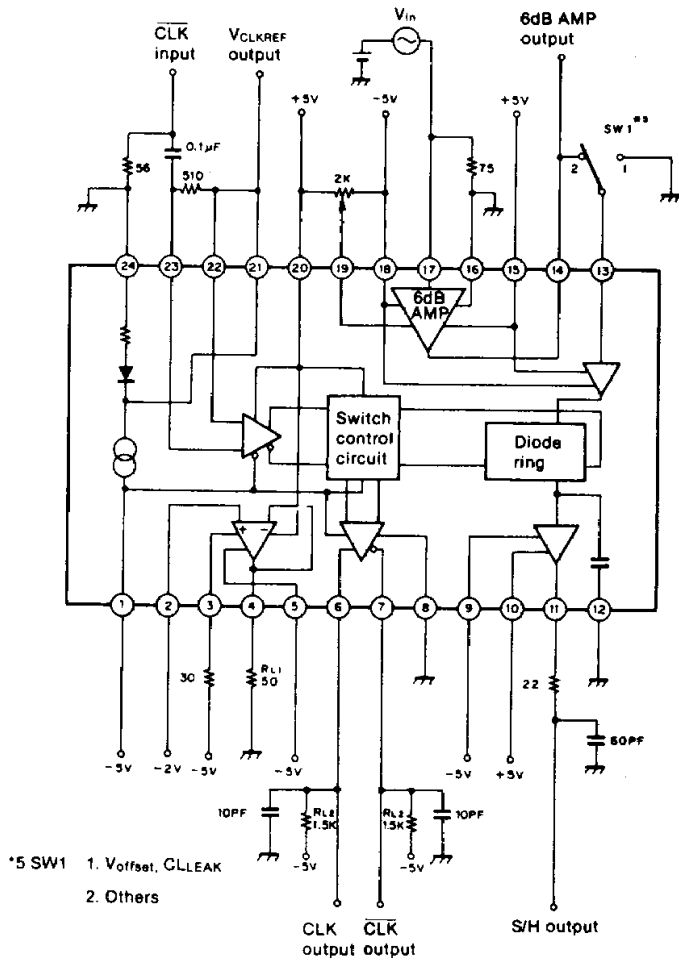

Fig. 3
S/H section (see Fig. 3)
(RLI = 50Ω. see Fig. 3)
## 6dB amp section (see Fig. 3)
## CLK OUT section (see Fig. 3)
-2Vref amp section (see Fig. 3)